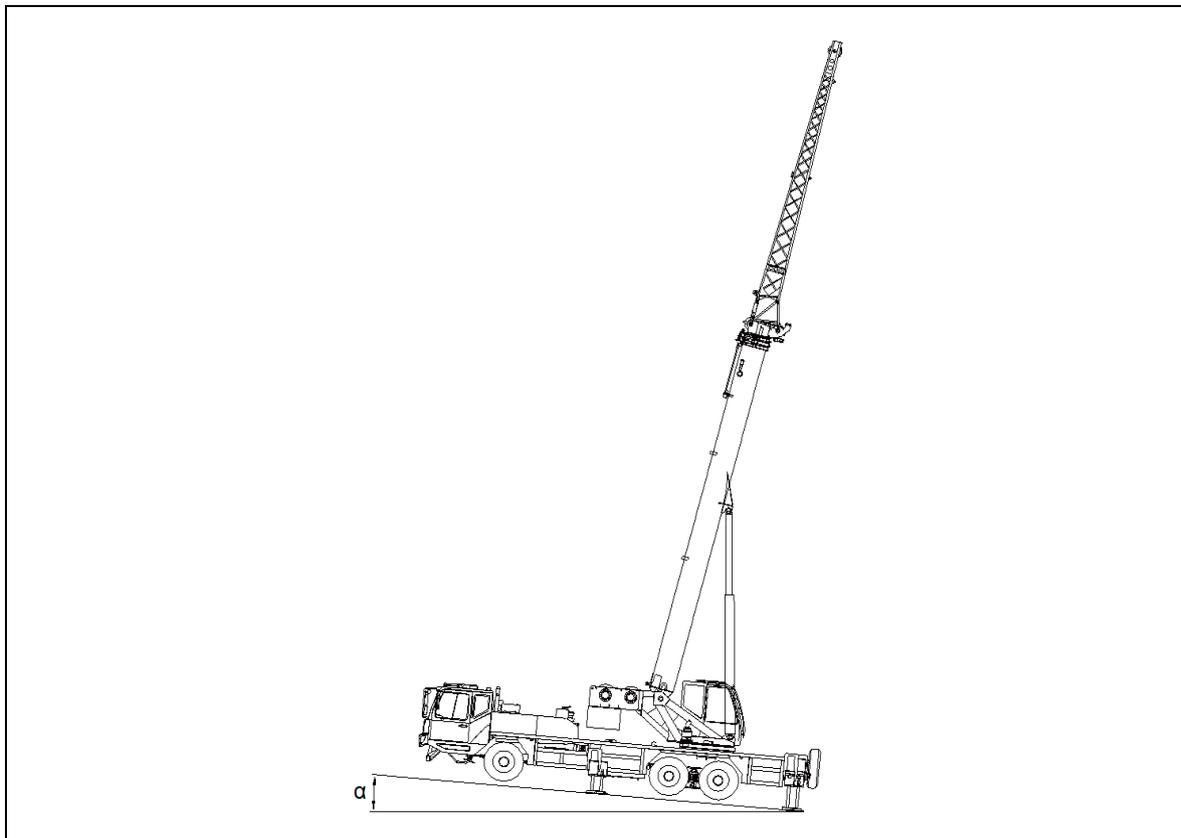

Figure 2-1 Inclination angle of crane
- d) Before operation, level the crane. Under any working conditions, the inclination angle α of the crane must not be more than 0.6° . Refer to Figure 2-1.